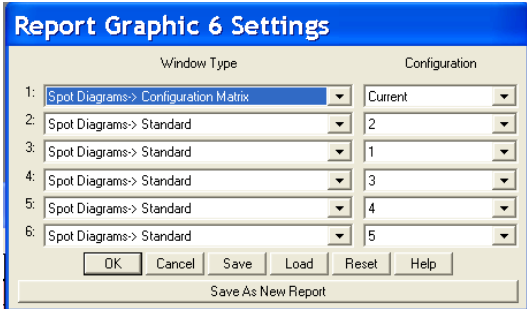

Figure 11: Settings for Report Graphic 6
- Figure 11 shows the settings chosen for my report, with the scale for each plot set to 100 μm , the pattern to dithered and the ray density to 12.